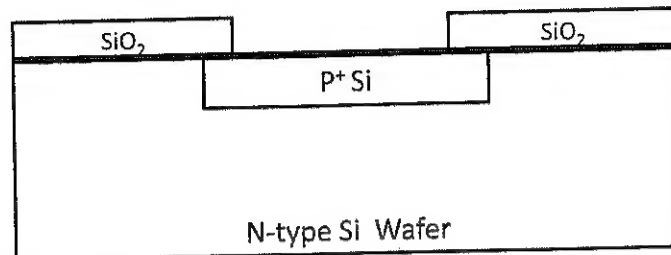

Figure 2(f): Schematic cross-section of a P-type doping on an N-type silicon wafer.
- (i) Design a fabrication process flow for the structure depicted in Figure 2(f). Illustrate each processing step, starting from the N-type silicon wafer. How many level of masking process is involved in the fabrication process of the structure? [9+1 marks]
- (ii) Identify a low cost and simple doping technique to form a P⁺ Si well in the N-type Si wafer given in Figure 2(f). Name the component which is missing from the structure in Figure 2(f), which is required in the formation of a P-N junction diode. [4 marks]